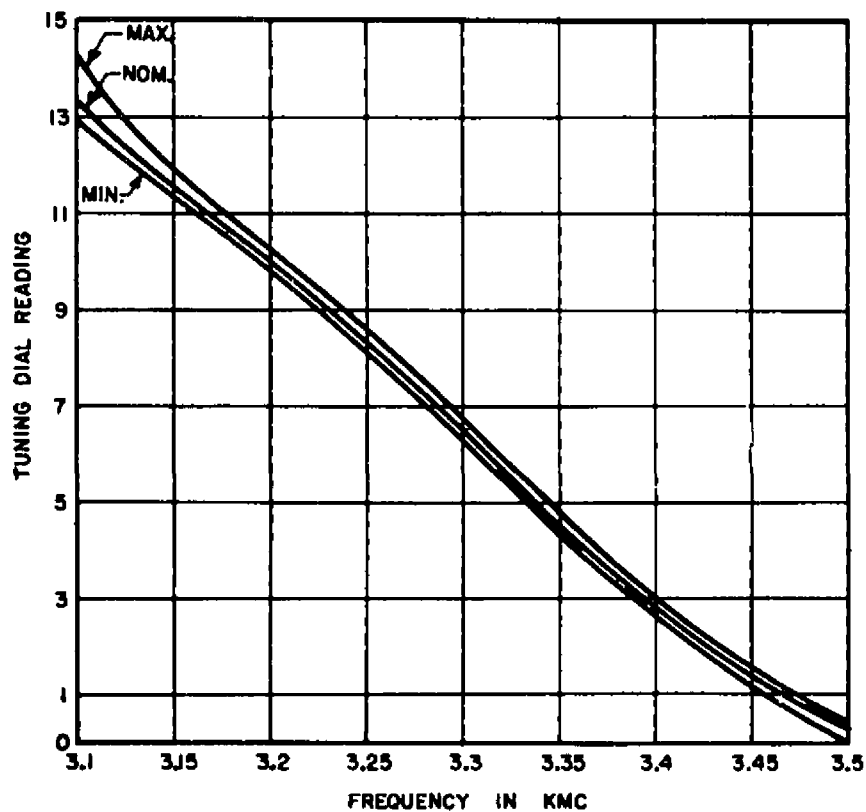

FIG. 4
- Figure 4 This is a plot of tuning dial readings versus frequency. It is assumed that thermal equilibrium has been obtained at each of the calibrated points.